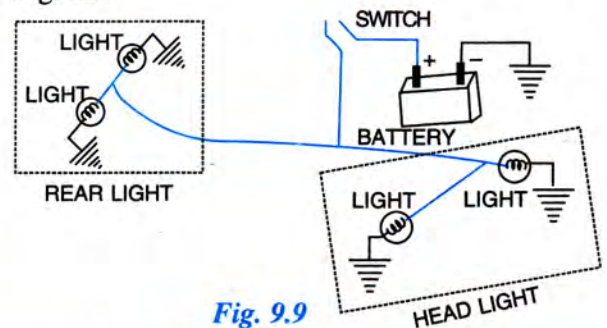

Fig. 9.9
- (ii) The two rear lights are connected in series so each light glows at half the voltage of the battery (if the resistance of filament of each bulb is same). Hence they glow faintly. They must be connected in parallel to glow properly as shown below in Fig. 9.9.